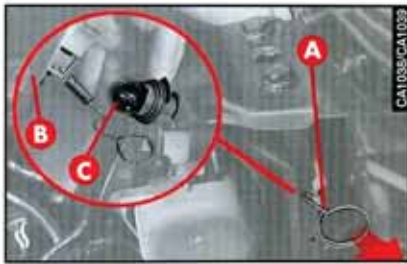

fig. 15
- Pull the fastening catch in the direction shown by the arrow (A-fig. 15) of the transparent cover (B-fig. 15) and remove it from the front of the car.
- Remove the bayonet-type bulb (C-fig. 15) turning counter-clockwise.
- Refit the transparent cover (B-fig. 15) checking that the catch hooks correctly.